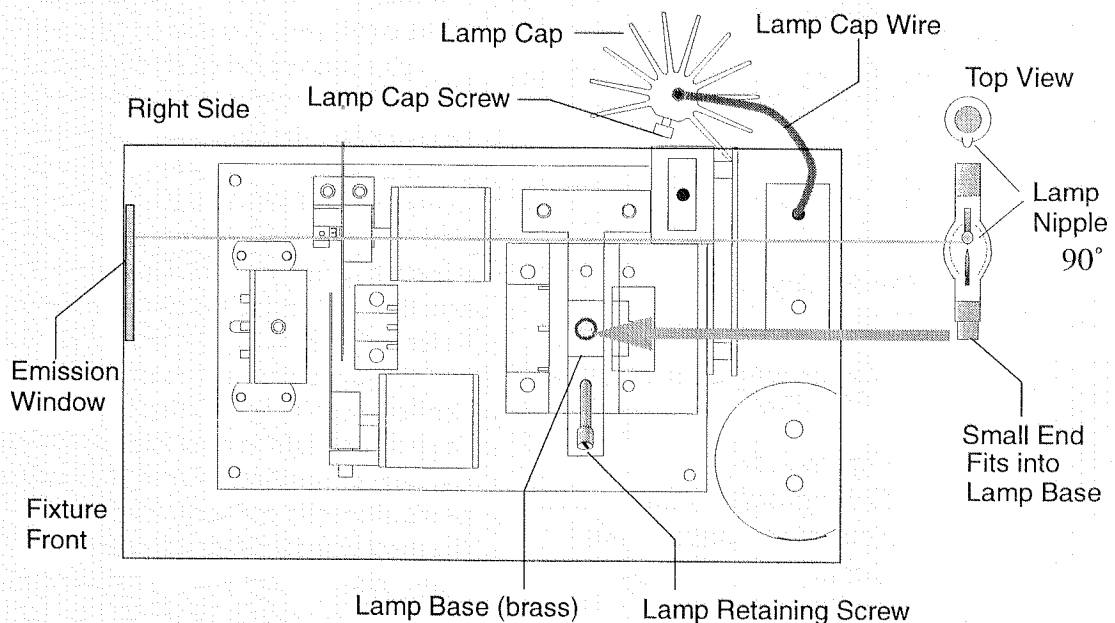

Figure 2.13. Positioning the Xenon Lamp
9. Position the *lamp nipple* so that it is at a 90° angle to the *Emission Window* on the front panel of the fixture. Refer to Figure 2.13. Proper placement of the lamp ensures that the lamp nipple does not obstruct or distort the light output of the xenon lamp.
10. Loosen the *lamp retaining screw* and insert the smaller end of the xenon lamp into the *lamp base*. The *lamp base* is made out of brass. Refer to Figure 2.13.
11. Holding the xenon lamp in place, tighten the *lamp retaining screw* by hand so that it fits securely. Refer to Figure 2.13. If you have access to a torque measuring screwdriver you can safely tighten the lamp retaining screw to 10 inch pounds without crushing the end of the lamp. If you over tighten the retaining screw the lamp becomes misaligned in the socket and is then difficult to focus.
12. Loosen the *lamp cap screw*. Refer to Figure 2.13. Place the *lamp cap* on top of the xenon lamp. Position the *lamp cap* so that the *lamp cap screw* aligns with the *lamp retaining screw*. That is, on the same side of the fixture. Refer to Figure 2.13. Tighten the *lamp cap screw* finger-tight. If you have access to a torque measuring screwdriver you can safely tighten this screw to 6 inch pounds.
**Note:** If you find it difficult to view the Pinhole Aperture when you optimize the fixture later in this section, you may have the *lamp cap* positioned so that the fin closest to the lamp cap screw is blocking the viewing path. Align the *lamp cap* on the lamp in the same orientation as shown in Figure 2.13.